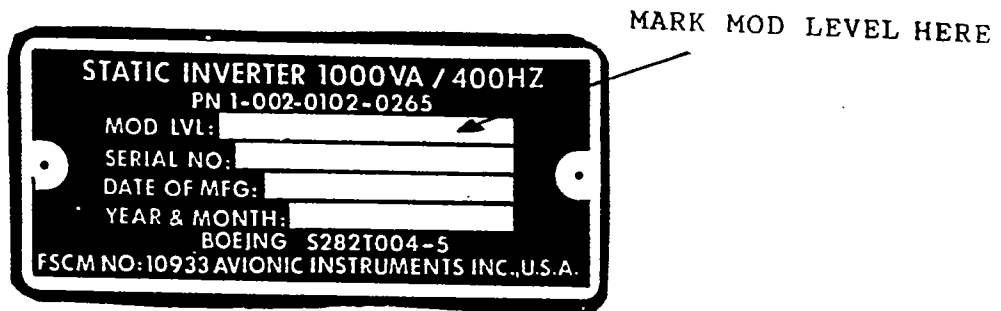

FIGURE 8
- (b)- Use the "H" metal stamp to identify the MOD LEVEL by stamping an "H" in the silver area next to the existing "G" for S282T004-5 static inverters. (See figure 8).